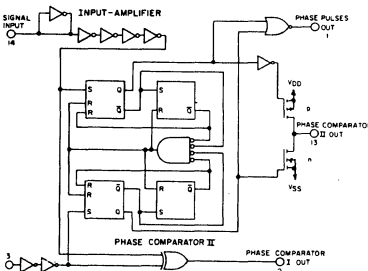
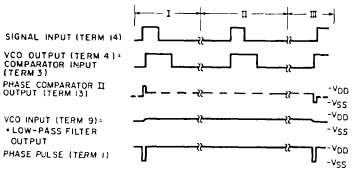
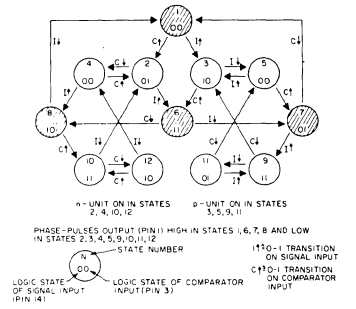

Fig. 3—Schematic of COS/MOS PLL phase-comparator section.
Fig. 6 - Typical waveforms for COS/MOS phase-locked loop employing phase-comparator II in locked condition.
Fig. 7 - State diagram of phase-comparator II.
Most PLL systems utilize a balanced mixer composed of well-controlled analog amplifiers for the phase-comparator section. Analog amplifiers with well-controlled gain characteristics cannot easily be realized using COS/MOS technology. Hence, the COS/MOS design shown in Fig. 3 employs digital-type phase comparators. Both phase comparators are driven by a common-input amplifier configuration composed of a bias stage and four inverting-amplifier stages. The phase-comparator signal input (terminal 14) can be direct-coupled provided the signal swing is within COS/MOS logic levels [logic 0 < 30% (VDD-VSS), logic 1 > 70% (VDD-VSS)]. For smaller input signal swings, the signal must be capacitively coupled to the self-biasing amplifier at the signal input to insure an over-driven digital signal into the phase comparators.
Phase-comparator II is an edge-controlled digital memory network. It consists of four flip-flop stages, control gating, and a three-state output circuit comprising p and n drivers having a common output node as shown in Fig. 3. When the p-MOS or n-MOS drivers are ON, they pull the output up to  $V_{DD}$  or down to  $V_{SS}$ , respectively. This type of phase comparator acts only on the positive edges of the signal- and comparator-input signals. The duty cycles of the signal and comparator inputs are not important since positive transitions control the PLL system utilizing this type of comparator. If the signal-input frequency is higher than the comparator-input frequency, the p-MOS output driver is maintained ON continuously. If the signal-input frequency is lower than the comparator-input frequency, the n-MOS output driver is maintained ON continuously. If the signal- and comparator-input frequencies are the same, but the signal input lags the comparator input in phase, the n-MOS output driver is maintained ON for a time corresponding to the phase difference. If the signal- and comparator-input frequencies are the same, but the signal input leads the comparator input in phase, the p-MOS output driver is maintained ON for time corresponding to the phase difference. Subsequently, the capacitor voltage of the low-pass filter connected to this type of phase comparator is adjusted until the signal and comparator input are equal in both phase and frequency. At this stable operating point, both p- and n-MOS output drivers remain OFF, and thus the phase-comparator output becomes an open circuit and holds the voltage on the capacitor of the low-pass filter constant. Moreover, the signal at the "phase pulses" output is at a high level, and can be used for indicating a locked condition. Thus, for phase-comparator II, no phase difference exists between signal and comparator input over the full VCO frequency range. Moreover, the power dissipation due to the low-pass filter is reduced when this type of phase comparator is used because both the p- and n-MOS output drivers are OFF for most of the signal-input cycle. It should be noted that the PLL lock range for this type of phase comparator is equal to the capture range, independent of the low-pass filter. With no signal present at the signal input, the VCO is adjusted to its lowest frequency for phase-comparator II. Fig. 6 shows typical waveforms for a COS/MOS PLL employing phase-comparator II in a locked condition.
Fig. 7 shows the state diagram for phase-comparator II; each circle represents a state of the comparator. The number at the top inside each circle represents the state of the comparator, while the logic state of the signal and comparator inputs, represented by a 0 or a 1, are given by the left and right numbers, respectively, at the bottom of each circle. The transitions from one state to another result from either a logic change on the signal input (I) or the comparator input (C). A positive transition and a negative transition are shown by an arrow pointing up or down, respectively. The state diagram assumes that only one transition on either the signal input or the comparator input occurs at any instant. States 3, 5, 9, and 11 represent the condition at the output of phase-comparator II when the p-MOS driver is ON, while states 2, 4, 10, and 12 determine the condition when the n-MOS driver is ON. States 1, 6, 7, and 8 represent the condition when the output of phase-comparator II is in its high impedance state; i.e., both p- and n-devices are OFF, and the phase-pulses output (terminal 11) is high. The condition at the phase-pulses output for all other states is low.
As an example of how one may use the state diagram shown in Fig. 7, consider the operation of phase-comparator II in the locked condition shown in Fig. 6. The waveforms shown in Fig. 6 are broken up into three sections: section I corresponds to the condition in which the signal input leads the comparator input in phase, while section II corresponds to a finite phase difference. Section III depicts the condition when the comparator input leads the signal input in phase. These three sections all correspond to a locked condition for the COS/MOS PLL; i.e., both signal- and comparator-input signals are of the same frequency but differ slightly in phase. Assume that both the signal inputs begin in the 0 state, and that phase-comparator II is initially in its high-impedance output condition (state 1), as shown in Figs. 7 and 6, respectively. The signal input makes a positive transition